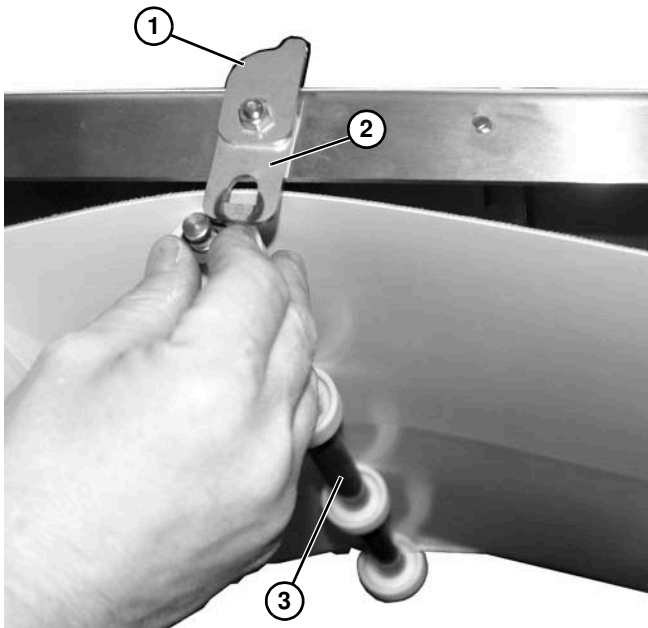

Figure 81
2. Raise clip bracket (Figure 81, item 1) from shaft bracket (Figure 81, item 2) on conveyor.
3. Remove roller assembly (Figure 81, item 3) from shaft brackets (Figure 81, item 2) on both sides of conveyor.